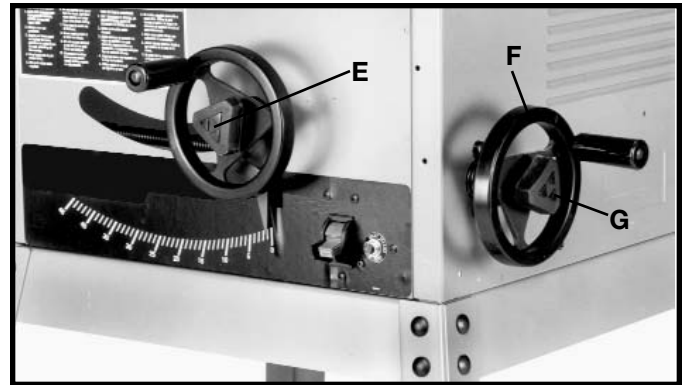

Fig. 8
2. Place a flat washer onto the end of the raising shaft. Thread the lock knob (E) Fig. 8, onto the shaft.
3. Assemble the blade tilting handwheel (F) Fig. 8, to the blade tilting shaft in the same manner.
4. Thread the lock knob (G) Fig. 8, onto the blade tilting shaft.